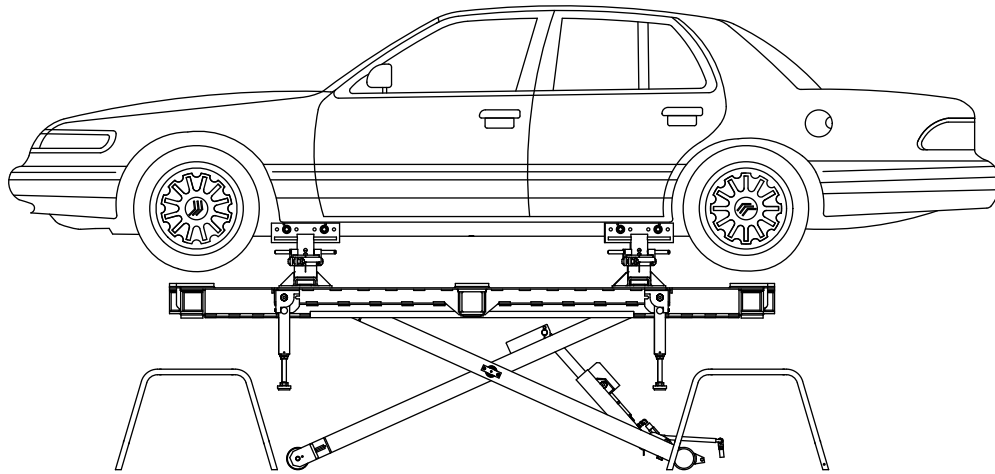

Figure 42
4. Raise the mainframe and vehicle high enough to be able to place the wheel stands under the tires of the vehicle by pressing the pump portion of the pedal on the Lift Pump (see Figure 42).